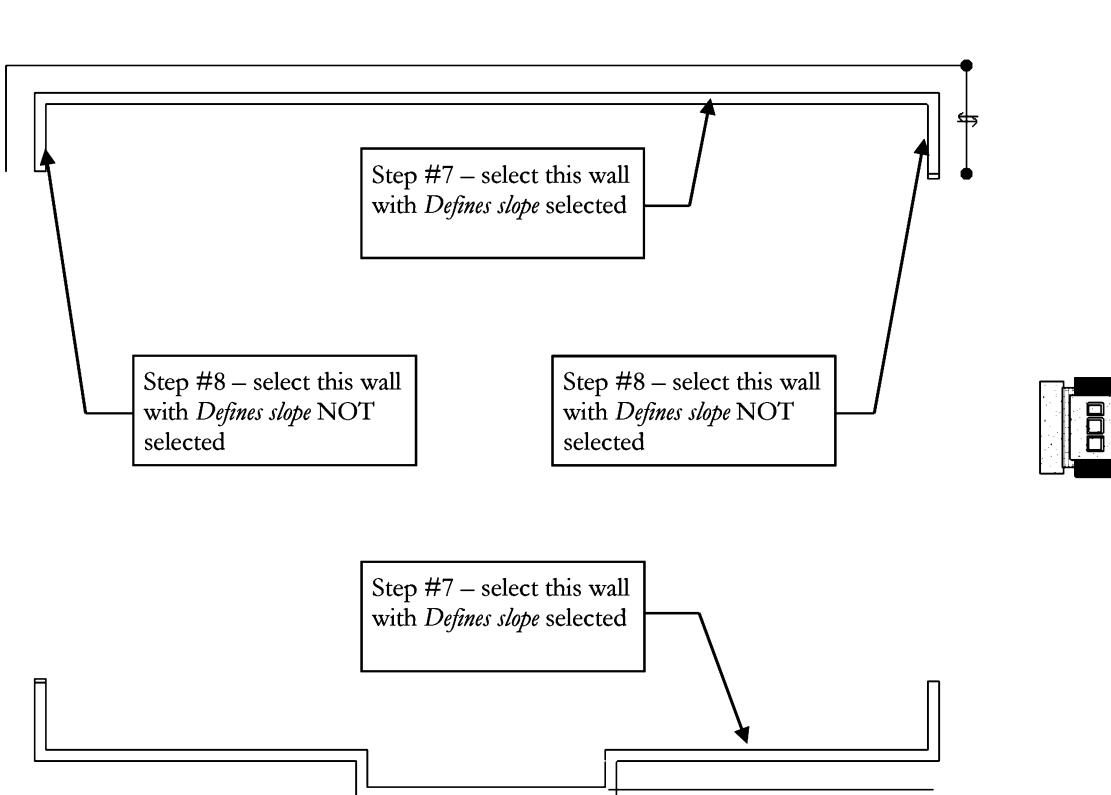

FIGURE 8-2.2 Roof Plan; four walls selected for sketching roof footprint
7. With *Defines slope checked* on the *Options Bar*, select the two walls as shown in Figure 8-2.2; make sure the overhang lines are on the exterior side of the building.
8. With *Defines slope NOT checked* on the *Options Bar*, select the two walls as shown in Figure 8-2.2; make sure the overhang lines are on the exterior side of the building.